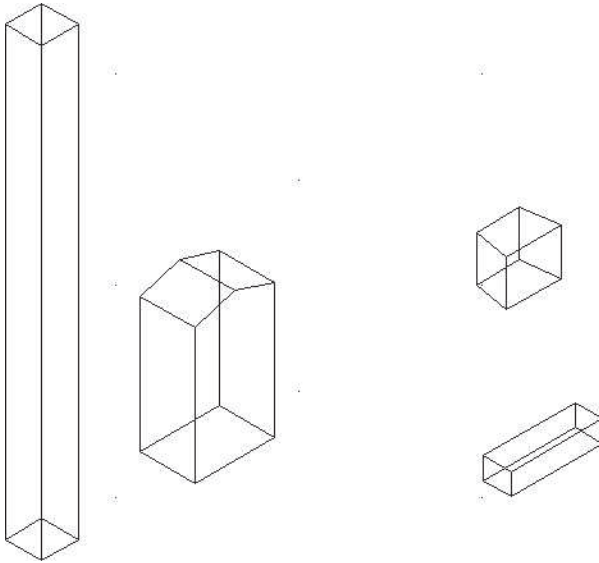

FIGURE 4.53 Mass elements created
10. Select the extruded mass element and verify properties in the Properties palette as follows: Style = **Standard**, Profile = **EMBEDDED**, Attach to = **None**, Width = **3' [900]**, Depth = **1'-11" [600]**, and Height = **2'-5" [750]**. Mass elements are developed as shown in Figure 4.53.